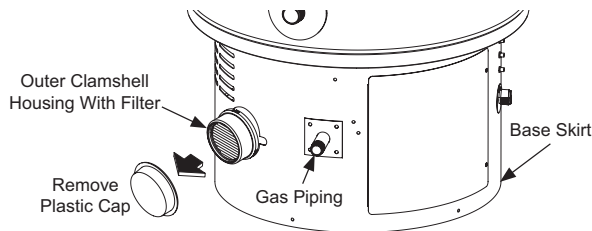

Figure 12. Remove Plastic Cap
4. Maximum of 6 elbows may be used per pipe. Use only short or long sweep elbows. See Figure 12 for details.
- Remove and discard the plastic cap from the outer clamshell housing. See Figure 12.